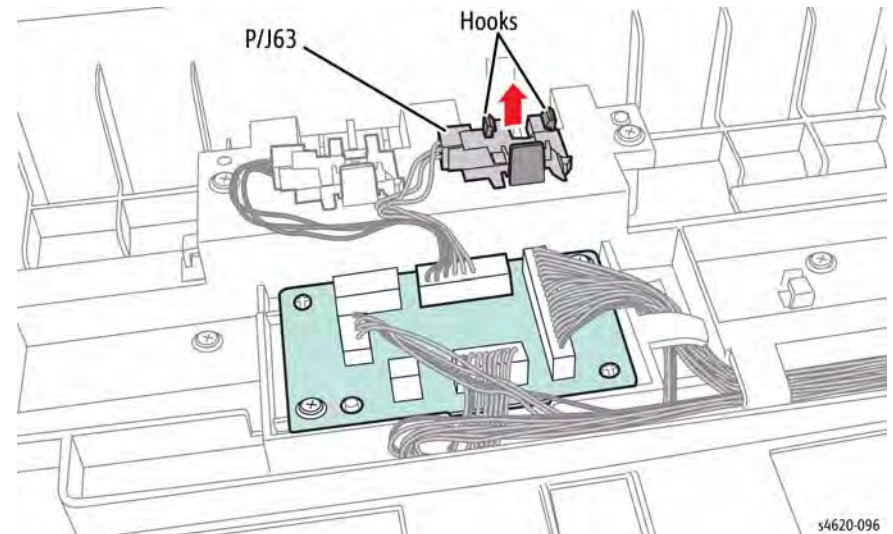

Figure 1 Remove the Registration Sensor
3. Disconnect P/J63 from the Registration Sensor, Figure 1.